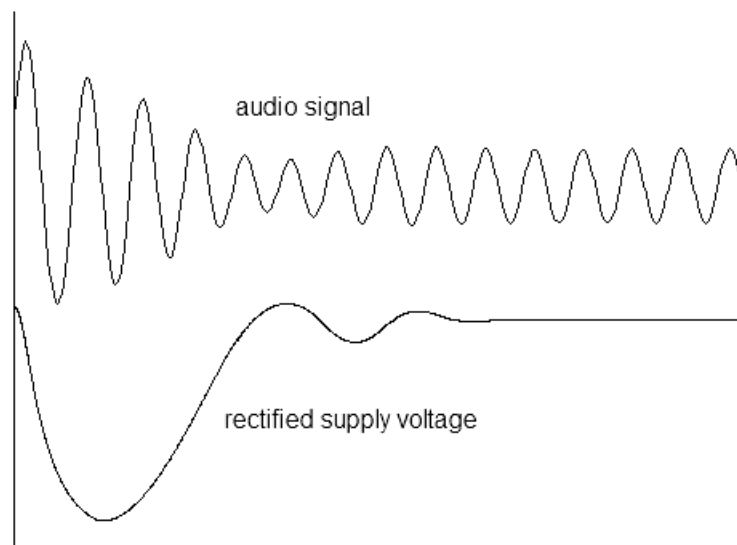

Figure 4. Rectifier Voltage Sag.
**RECTIFIER:** As a Class AB push-pull type tube amp’s output volume is increased more current is drawn from the power supply as sounds are amplified. This increase in current demand can cause a droppage in the rectifier’s d.c. output voltage (i.e. “sag”), which then recovers back to normal as the sound signal fades (see Figure 4). This voltage drop results in a loss of volume, lower headroom and more compression of the audio signal on loud transients, but also as a “blooming” effect as the voltage and amplification factor recovers. Traditionally, rectifiers were intended to be as “stiff” as possible but, depending on the exact design, some rectifiers can sag noticeably, particularly in higher power applications, giving the amp a soft, “spongy” feel.